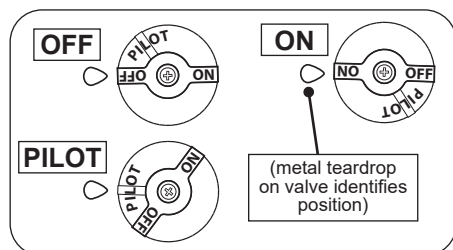

Fig. 22-1 Gas control knob
2. Locate the valve on the unit. Push in the gas control knob slightly and turn clockwise  to **OFF** (Fig. 22-1).
4. Turn the control knob counterclockwise  to **PILOT**. Push the knob **firmly and fully** in and hold. Push the piezo igniter button several times until the pilot lights. Continue to hold the knob in for about one (1) minute after the pilot is lit. Release the knob and it will pop back out. The pilot will remain lit. See Fig. 22-1 and 22-3. If it goes out, repeat steps 2-4. Alternatively, a long-stem match/ long-necked butane lighter can be held near the thermocouple to light the pilot.
1. Ensure the pilot is burning. Turn the control knob counterclockwise  to **ON** (see Fig. 22-1).
To shut down the burner and pilot (total shutdown), flip the toggle switch to **OFF**, and push in the control knob slightly and turn clockwise  to **OFF** (see Fig. 22-1 & 2).